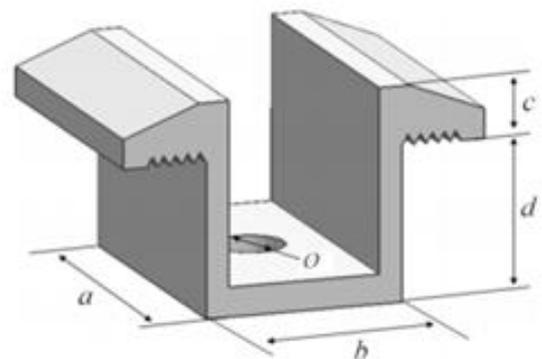
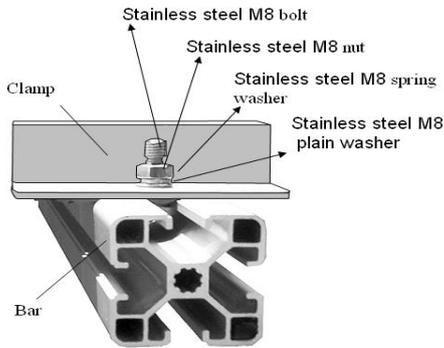

Fig. 5 Schematic diagram of the mid clamp
Fig. 6 Schematic diagram of the fringe clamp
- ③ The top surface of the rail contacted with module frame should be equipped with grooves compatible with an M8 bolt.
- ④ If the grooves are not provided, holes of a suitable diameter may need to be drilled to allow bolts attaching to the rail at the same locations as mentioned above.
- ⑤ Ensure that the mounting sequence of each clamp is in the order of flat washer, spring washer and nut.
- ⑥ There are two types of clamps, the mid clamp shown in Fig 5 and the fringe clamp shown in Fig 6. The mid clamp has dimensions of $a \geq 40$ mm, $b \geq 26$ mm, $c \geq 5$ mm, $d \geq 28$ mm, $\varnothing = 9$ mm. The tightening torque is suggested to be 17~23Nm for Class 8.8 screw and bolts.